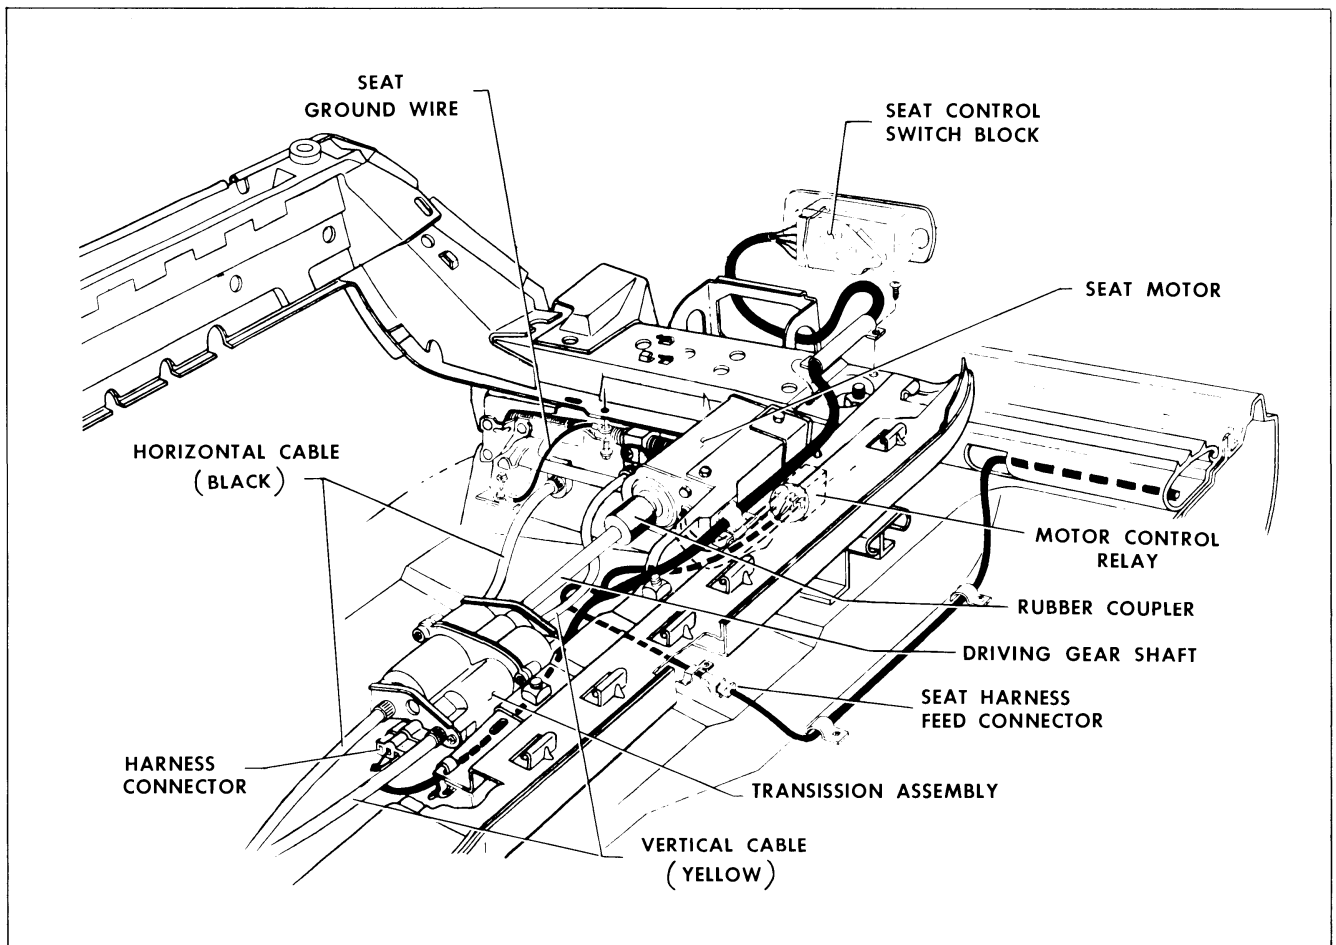

Fig. 17-4 Tilt Seat Circuit Diagram
Tilt seat adjusters are actuated by a 12 volt, reversible, shunt wound motor with a built-in circuit breaker. The motor is installed at the left side of the seat assembly (Fig. 17-4). The seat motor is energized by a toggle-type control switch installed in the left seat side panel.
3. Remove screws securing horizontal and vertical cable end plate on side of transmission from which cables are being removed and remove cables from seat (Fig. 17-4).
2. Disconnect wire harness connector from transmission (Fig. 17-4).